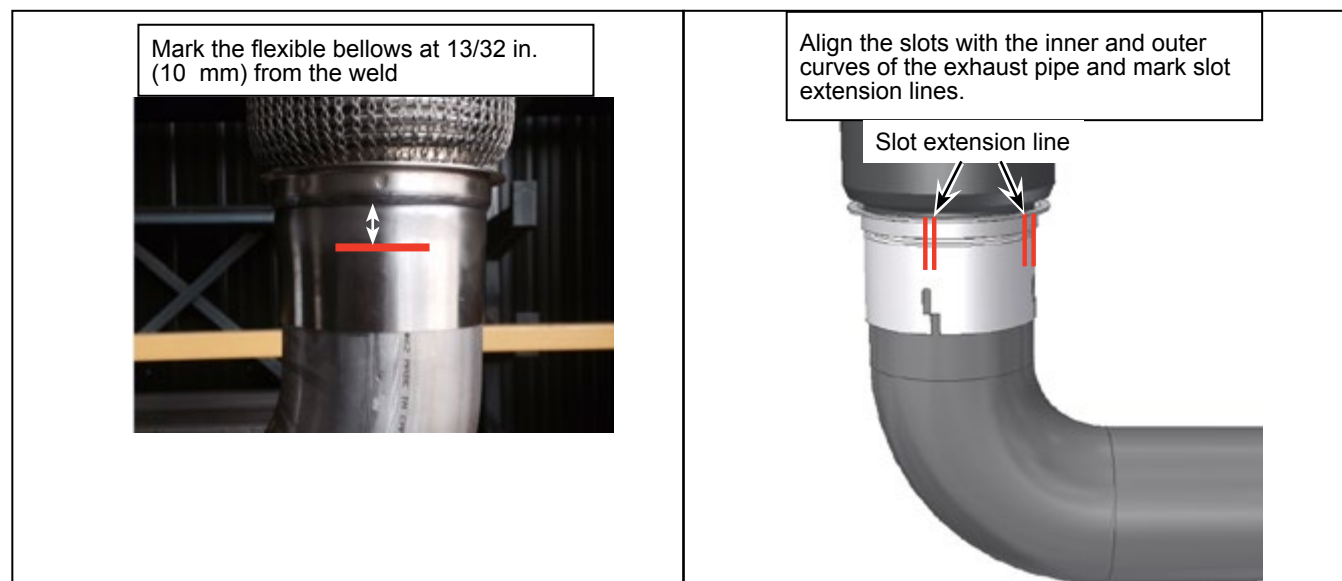

Figure 2 - Marking of the Flexible Bellows
- 1.9. Mark the flexible bellows 13/32 in. (10 mm) from the weld. See Figure 2.
- 1.10. Mark extension lines of the slots on the flexible bellows up to the flexible portion. See Figure 2.